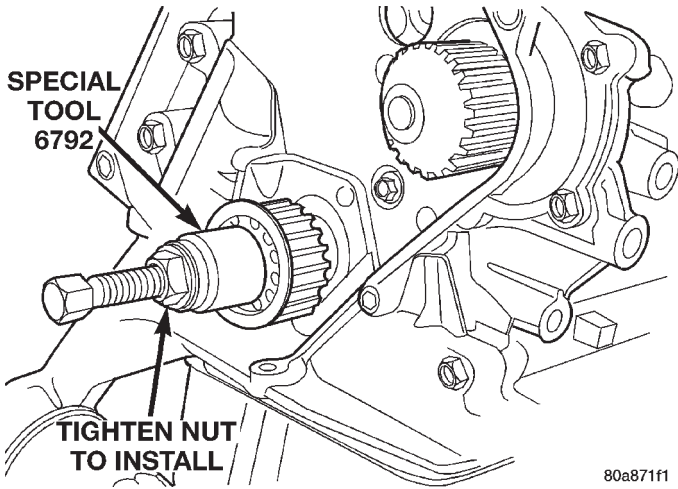
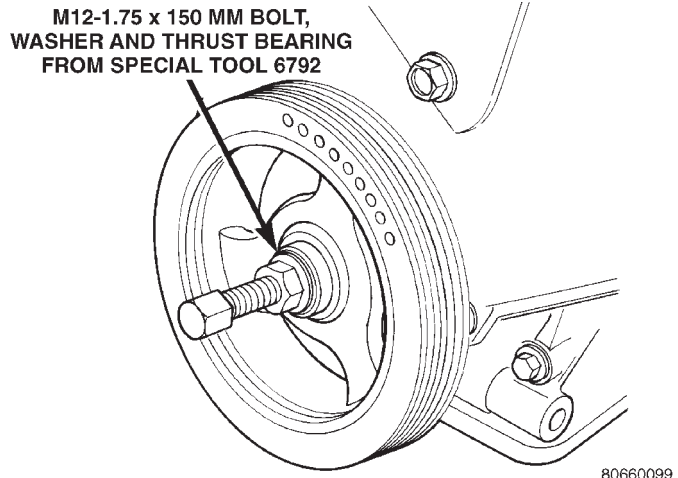

Fig. 76 Crankshaft Sprocket—Installation
Fig. 77 Crankshaft Damper—Installation
- (3) Install crankshaft sprocket using Special Tool 6792 (Fig. 76).
- (4) Install timing belt and timing belt covers. Refer to procedures in this section.
- (5) Install crankshaft damper (Fig. 77). Use thrust bearing/washer and 12M 1.75 x 150 mm bolt from Special Tool 6792. Install crankshaft damper bolt and tighten to 142 N-m (105 ft. lbs.).